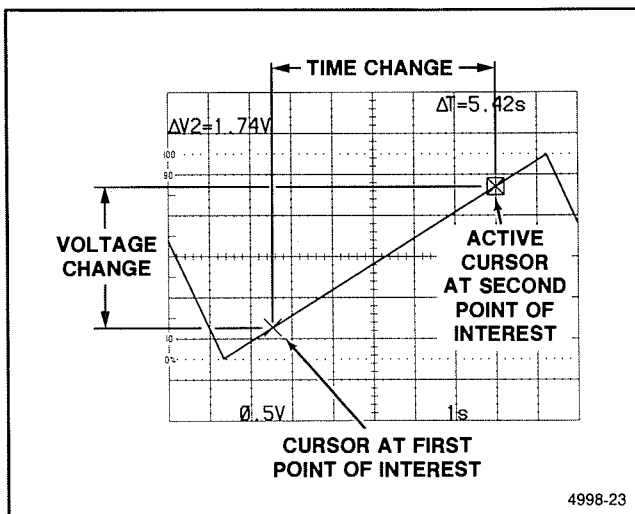

Figure 6-10. Slope using cursors.
4. Set the A SEC/DIV switch to horizontally spread the portion of the waveform to be measured across the width of the graticule area (see Figure 6-10).
As an example, in Figure 6-10, the voltage difference between the measurement points is 1.74 V, and the time difference is 5.42 s.